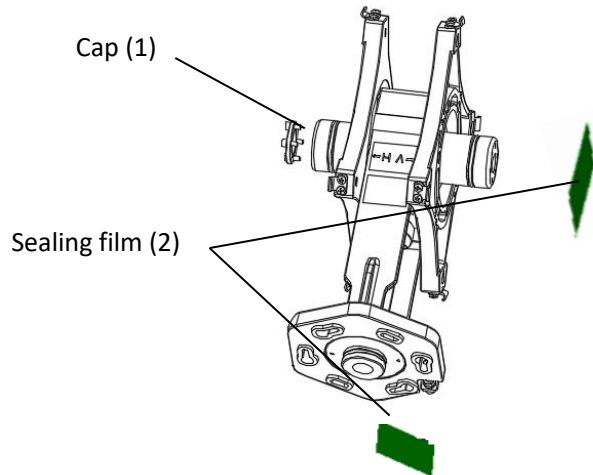

Figure 3.1 – Remove Sealing Film and H port Cap
- 3.1 Remove the Sealing film on V port and antenna port, and metal cap on the H port (if H polarization radio is being installed). See **Figure 3.1**